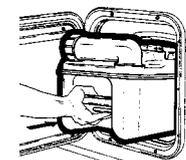

Fig. 5
5. Slide the holding tank into position through access door (fig. 5).